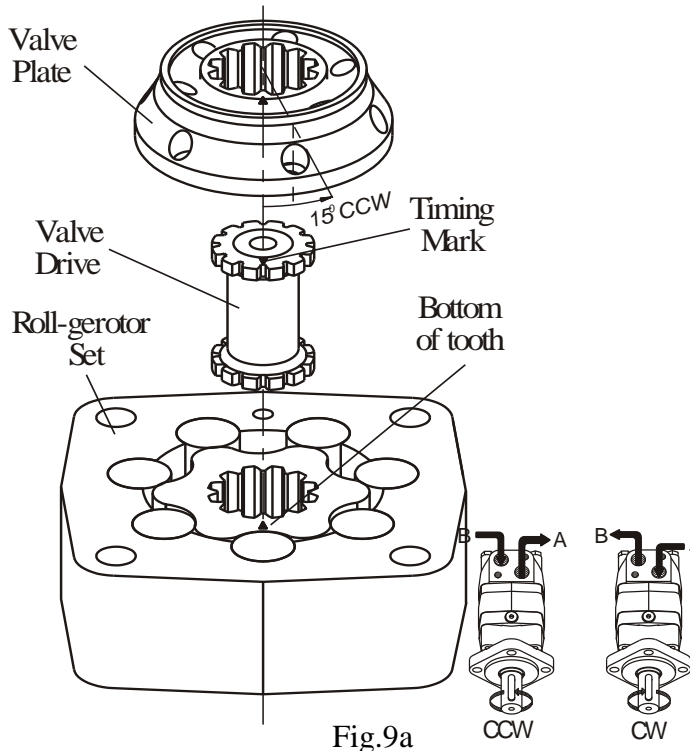

Fig.9a
15. Align mark on valve drive with a hole in the outer rim of the Valve Plate. Turn Valve Plate clockwise (as shown on Fig.9a) until splines in the two parts engage / rotation about 15°.